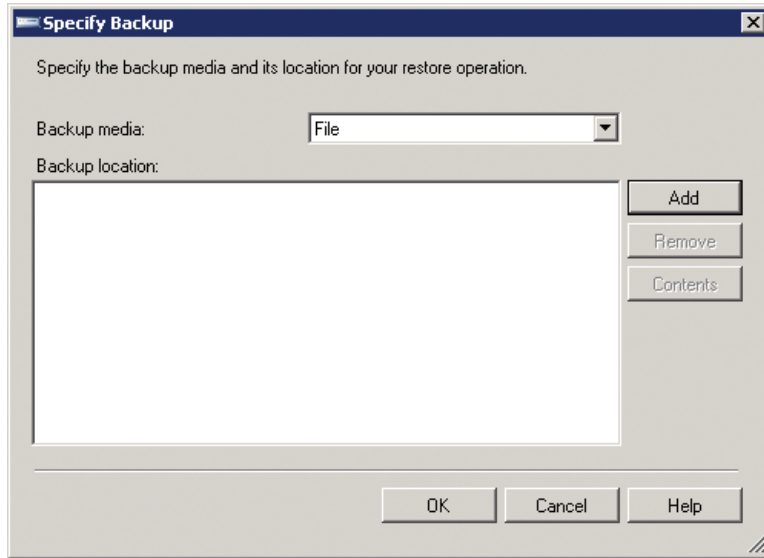

Figure 116. Specify Backup dialog.
7. Select **File** from the **Backup media** options (see Figure 116).